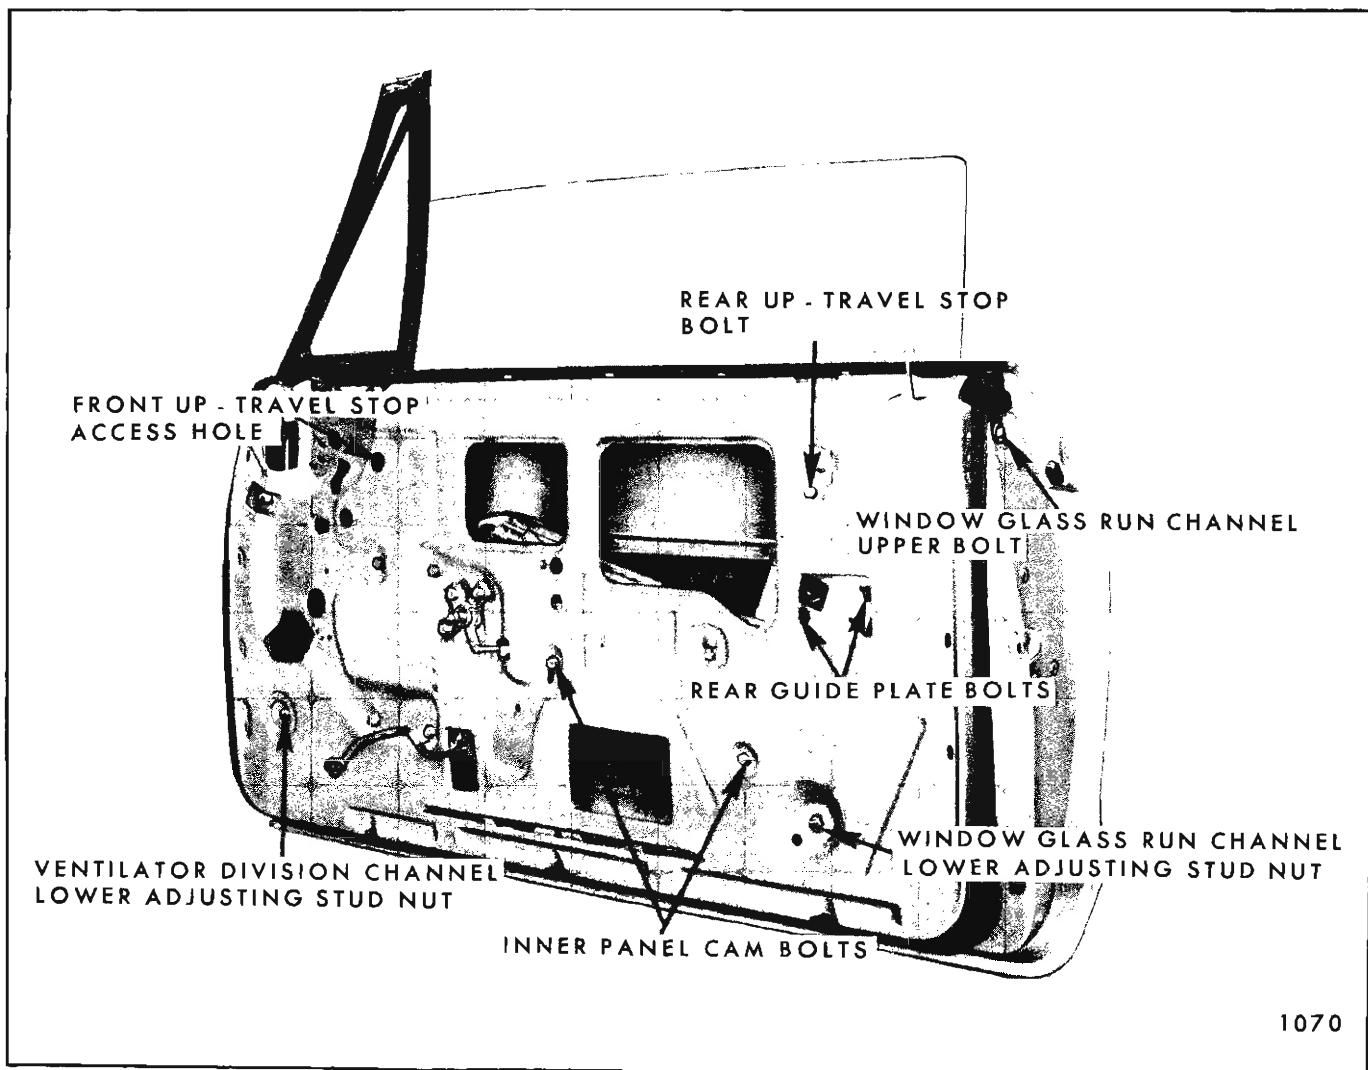

Fig. 1D40—Front Door Hardware Attachment "67" Style
2. To adjust the top of the window in-or-out in relation to side roof rail weatherstrip on coupe styles, loosen ventilator division channel lower adjusting stud nut and window run channel lower adjusting stud nut (Fig. 1D40). Adjust studs in-or-out as required and tighten stud nuts.
3. To adjust top of window in-or-out in relation to side roof rail weatherstrip on sedan styles, loosen ventilator division channel lower adjusting stud nut and window run channel lower attaching bolt (Fig. 1D39). Adjust division channel stud as required and tighten stud nut. Position lower end of run channel in-or-out as required and tighten attaching bolt.
4. To adjust upper rear edge of glass in-or-out in relation to side roof rail and door beltline, loosen run channel upper attaching bolt and lower attaching bolt or adjusting stud nut depending on body style (Fig. 1D39 or 1D40). Adjust run channel in-or-out as required and tighten run channel attachments.